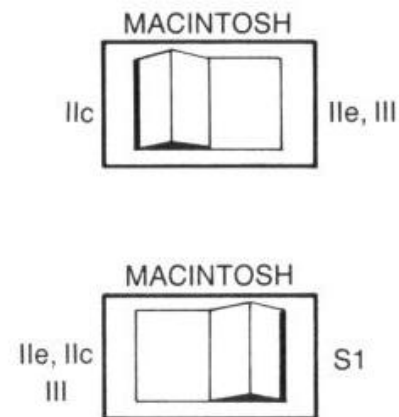

Figure 2-16. Rocker Switch Settings (Apple ///)
6. Set the rocker switches on the back of the QC hard disk so that both are in the /// position as in Figure 2-16.